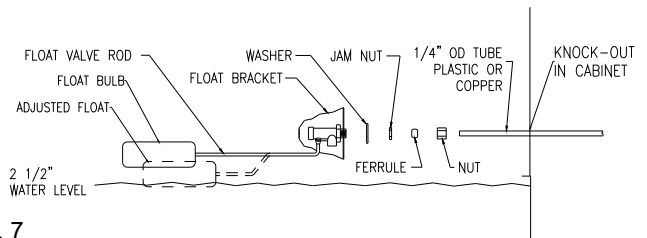

Fig. 7
- Install float valve in the bracket provided (see Figure 7).